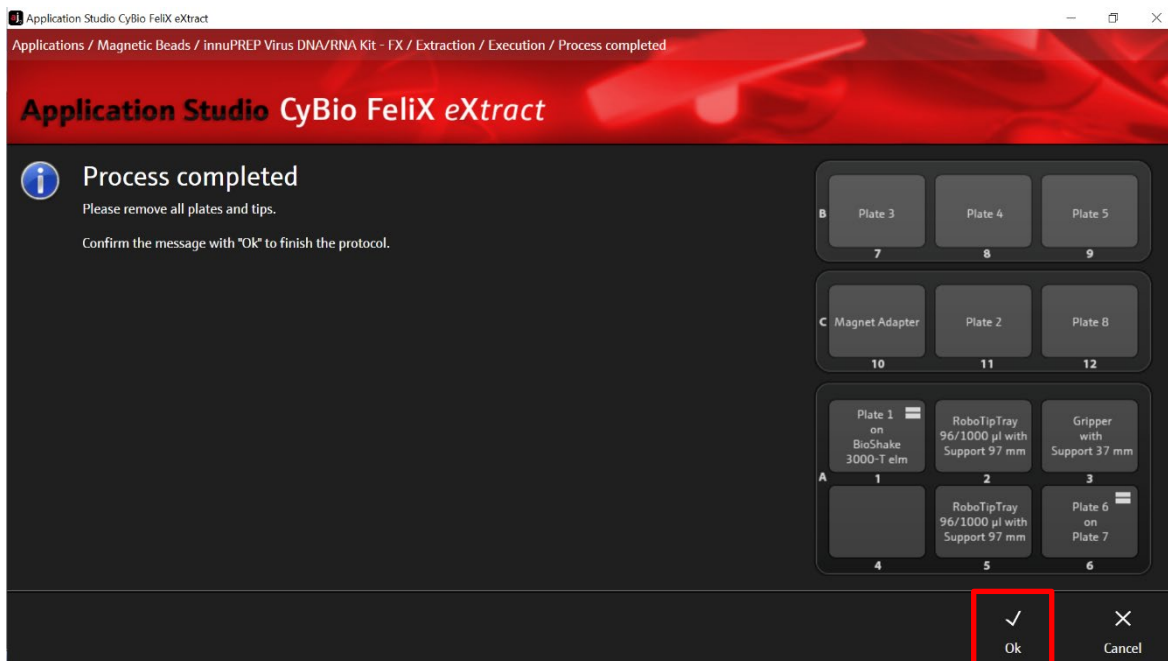

Figure 34: Process completed.
11. Confirm the “Process completed” message with “Ok” (→ see Figure 34).